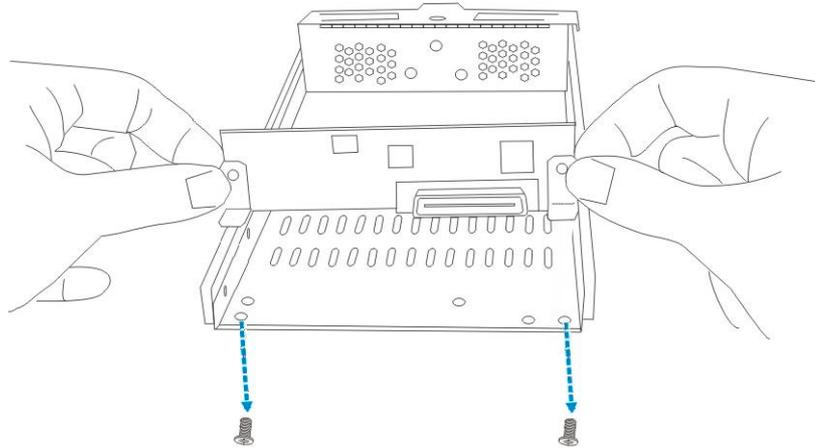

Figure 2-11: Remove the SATA-to-SATA MUX Kit
Step 1. Remove the SATA-to-SATA MUX kit. All drive trays come with pre-installed SATA-to-SATA MUX kits. Before installing the SATA-to-PATA MUX kits, the original MUX kits must be removed. To do this, turn the drive tray upside down and remove the two (2) retention screws that hold the SATA-to-SATA MUX kit in place. After the screws are removed, the MUX kit will easily separate from the drive tray. (See *Figure 2-11*).